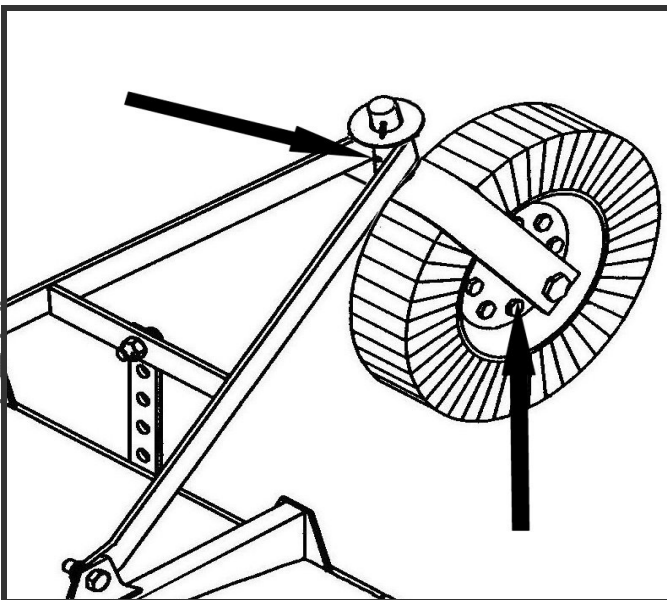

Figure M-1
- 2). Every 8 hours, wheel fork (s), wheel hub (s), PTO shaft universal joints (2), and PTO telescoping surface. **(See Figures M-1 & M-2)**